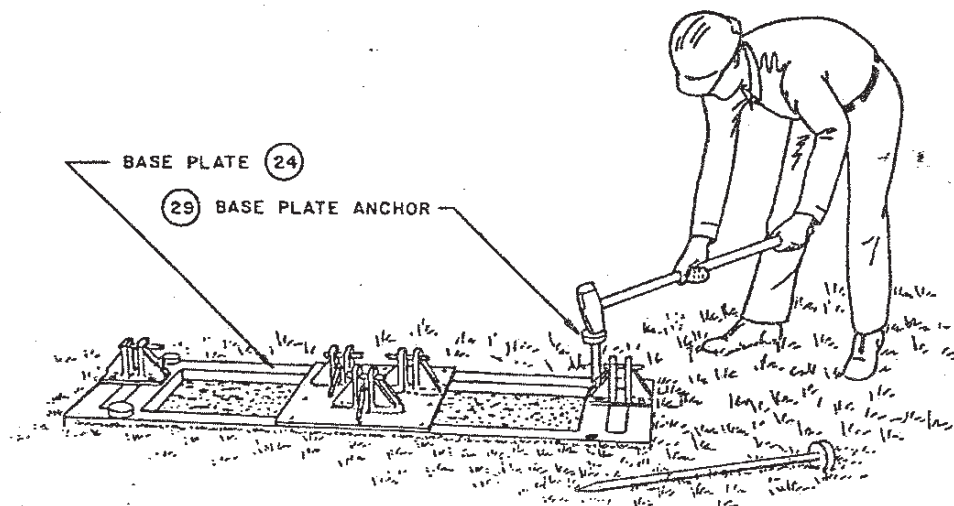
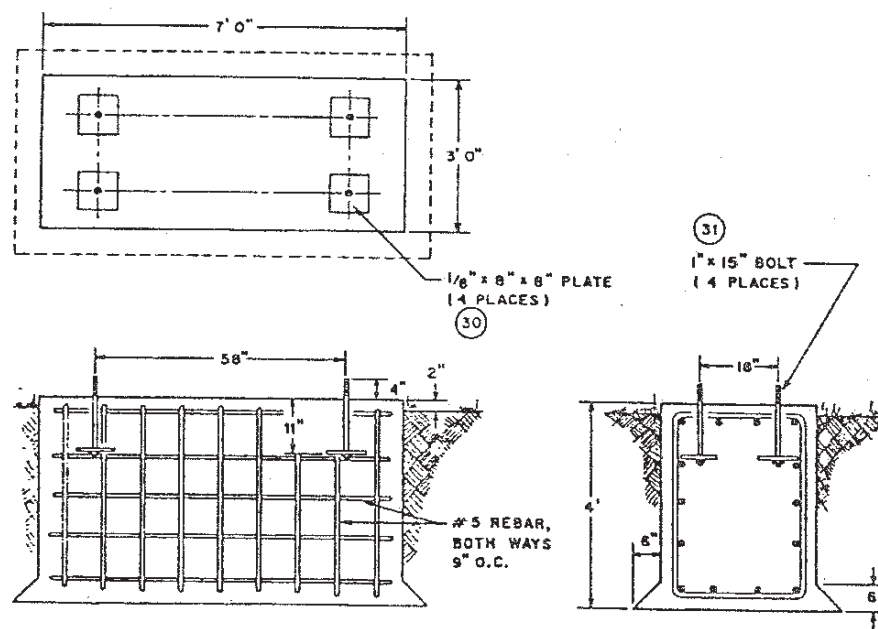

Figure 2-4
Figure 2-5
- d. Position the base plate in the prepared area and secure by driving the base plate pin into the ground through the anchor holes provided in the base plate. Refer to Figure 2-4. Constantly check the base plate with a level to insure that it remains level. Anchor bolts and plates are provided for use in a concrete tower base if this is desired for a more permanent installation site. Figure 2-5 shows the layout for a concrete base.